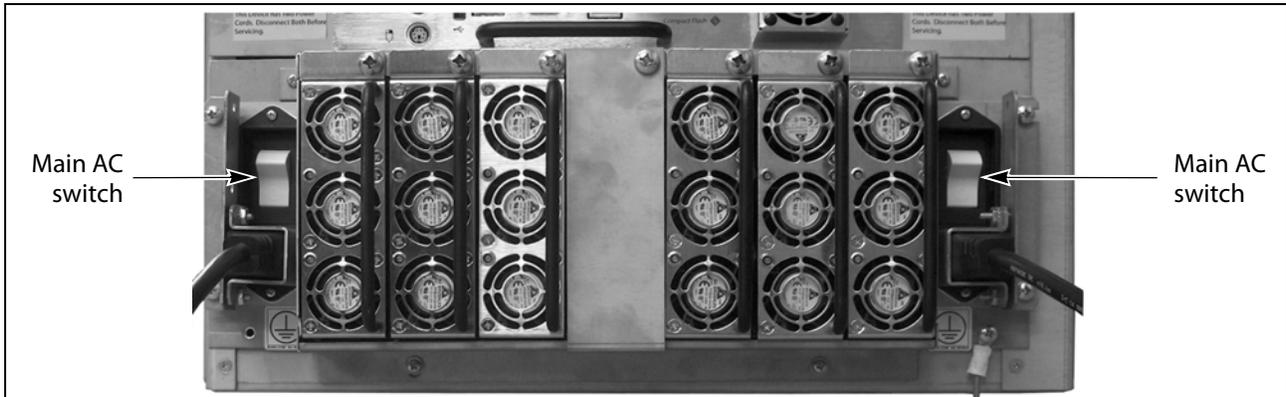

Figure 1 Turn off library AC power switches.
1. Set the AC power switches to the on position (see Figure 1 on page 10).